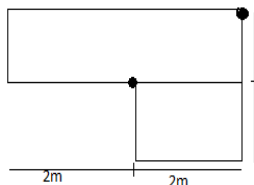

fig 2
12. Using Fadum's chart, determine the increase in vertical stress at 2m depth below A and B due to UDL of 40 KN/m² on the ground surface shown by the area in **fig2**. (21.02 KN/m², 8.98 KN/m²) (2009Fall)